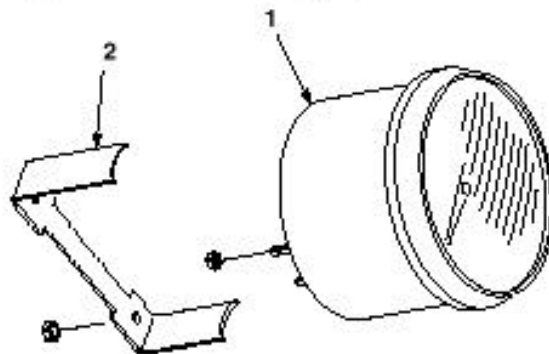

Figure 1
5. Insert the replacement speedometer into the hole in the instrument panel. Secure the speedometer clamp to the speedometer with the nuts (Fig. 1).